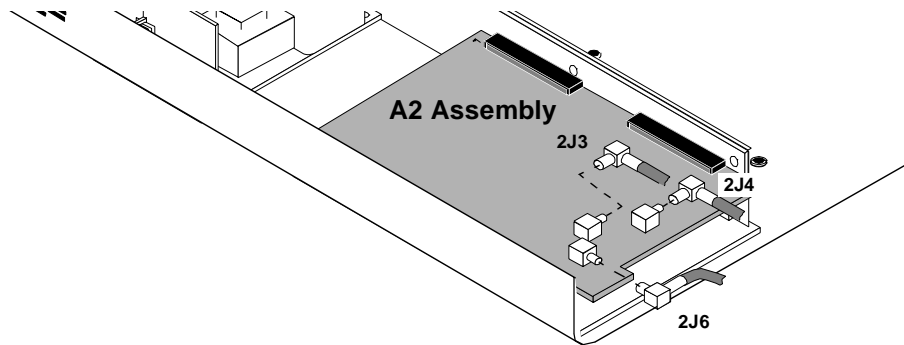

Figure 33 Removing A2 Assembly SMB Connectors
4. Disconnect the SMB connectors 2J3, 2J4, and 2J6 from the A2 assembly, see figure 33.